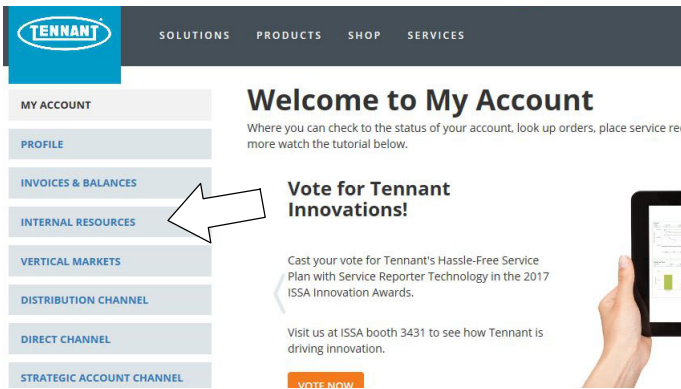

Fig. 27
2. Once logged in to the “My Account” website, click on the “INTERNAL RESOURCES” link as shown below (Figure 27).